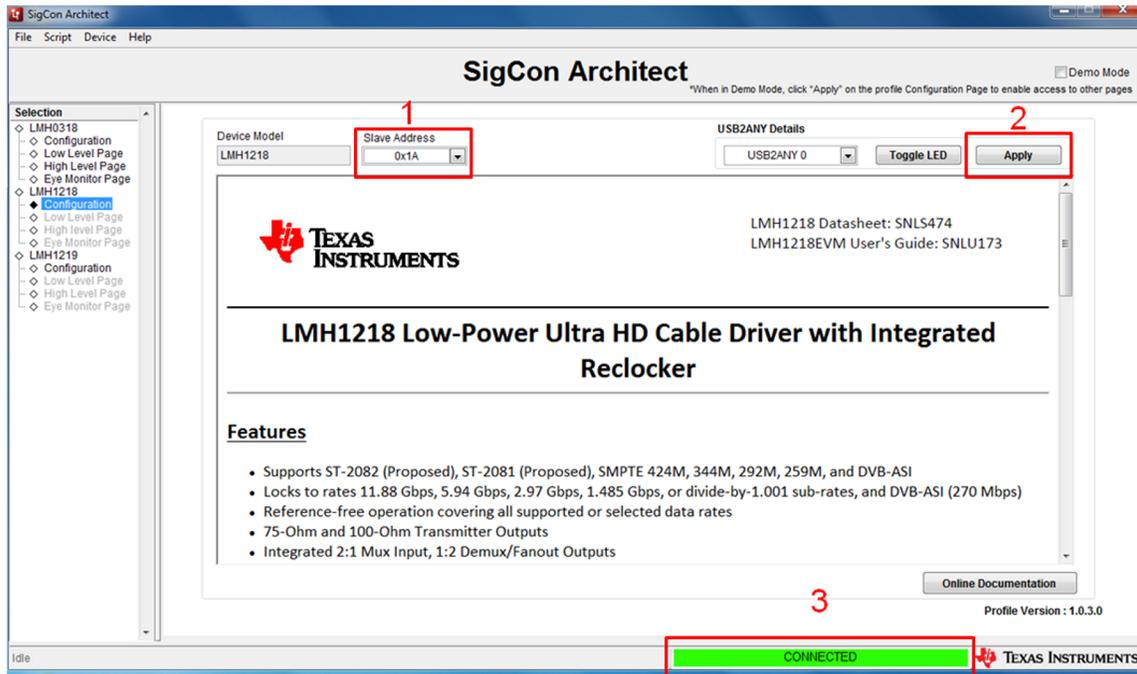

Figure 3. SigCon Architect LMH1218 Configuration
7. Select the *Configuration* tab of the LMH1218 as shown in Figure 3. Set the *Slave Address* field to 0x1A and click the *Apply* button.